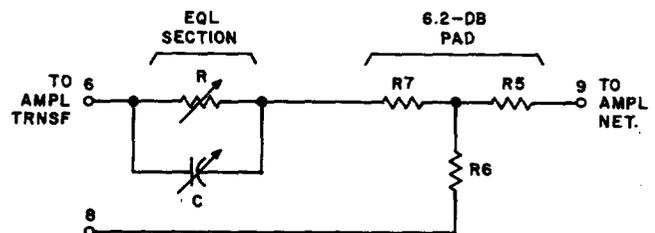

Fig. 2—359K Equalizer—General Circuit Configuration
3.01 The general circuit configuration of the 359K equalizer is illustrated in Fig. 2. Resistor R and capacitor C are the low-frequency equalizer; resistors R5, R6, and R7 make up a 600-ohm, 6.2-dB pad.